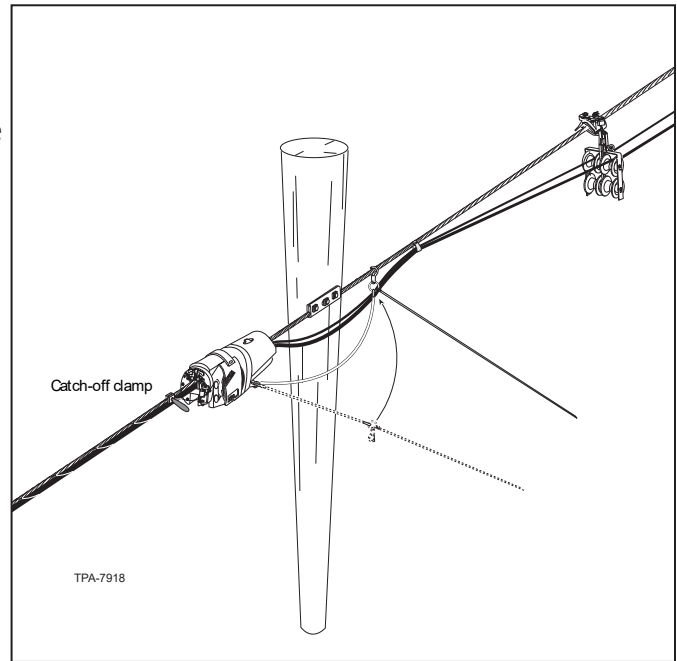

Figure 12 - Transferring a lasher around a pole
4. Provide a safety catch to prevent cable guides and other equipment from being dropped during a transfer by detaching the pulling line, feeding it over the next span, and reattaching it to the equipment. With a lasher, one end of the lasher bridle can be unsnapped and wrapped around the next section of strand before reattaching it to the lasher (Figure 12).